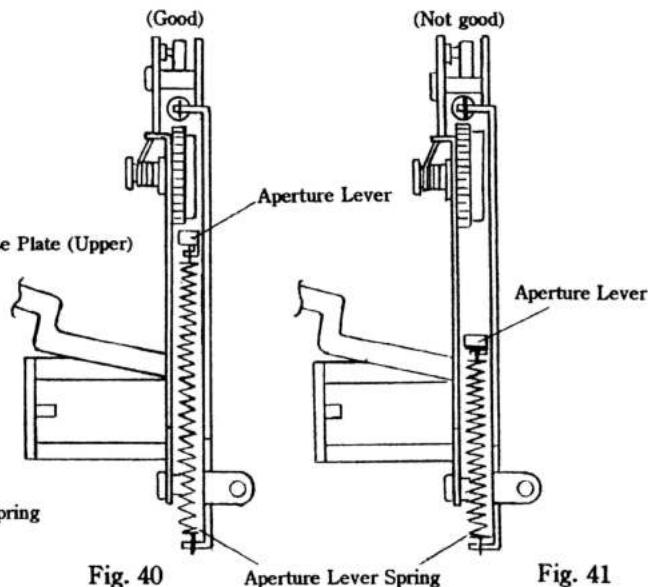

Fig. 40
- 14) Turn the Mirror Gear (3) of the Mirror Base Plate Ass'y (1AMG1900) in the direction of the arrow ⑧ until the Aperture Lever comes to the up position. At this point, the Aperture Lever Spring must be in the expanded position. (See Fig. 40)